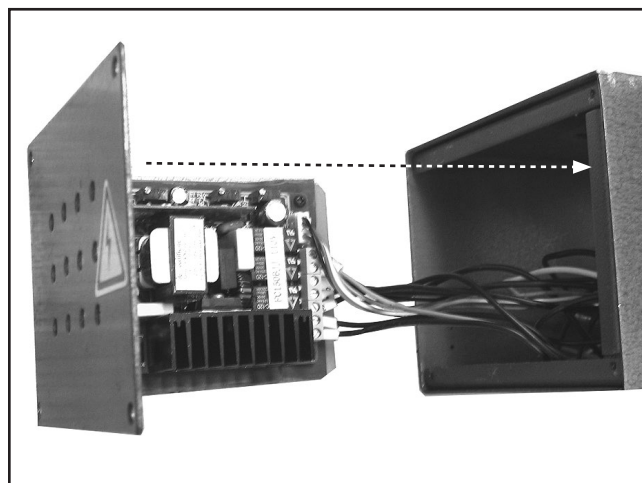

Figure 15. Circuit board installation.
21. Carefully slide the circuit board and vent cover back into the power feed housing (**Figure 15**), but do not install the four mounting screws at this time.